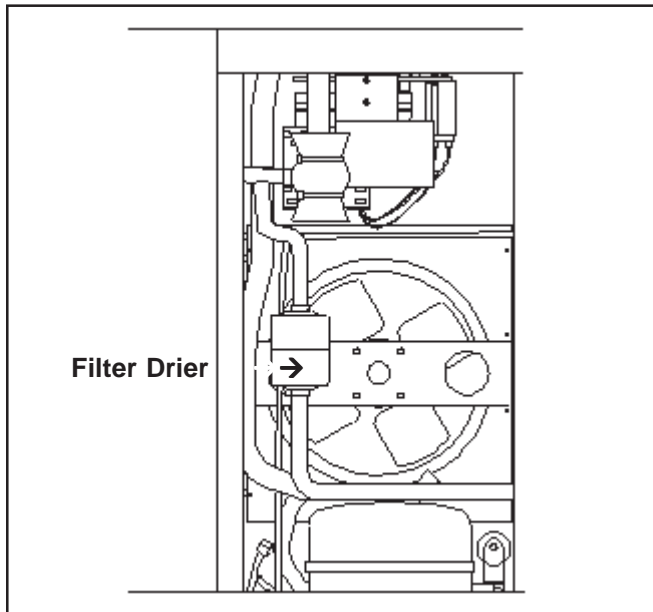

Figure 46. Remove Filter Drier
11. Leaving a port open to prevent pressure build-up, remove the filter drier and install a new filter drier using the appropriate brazing material (Fig.46).